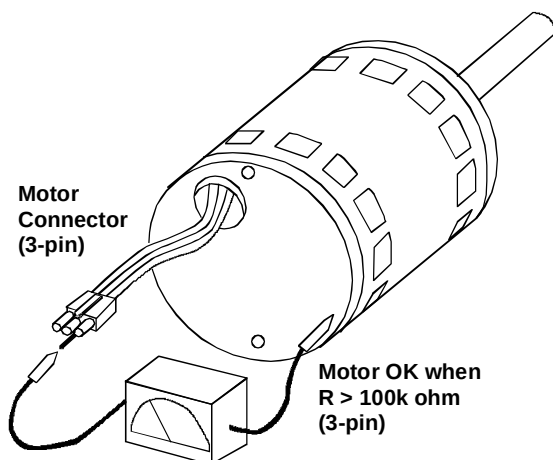

Figure 2
6. The control module is now completely detached from the motor. Verify with a standard ohmmeter that the resistance from each motor lead (in the motor plug just removed) to the motor shell is greater than 100K ohms. (Measure resistance to unpainted motor end plate). (See Figure 2)